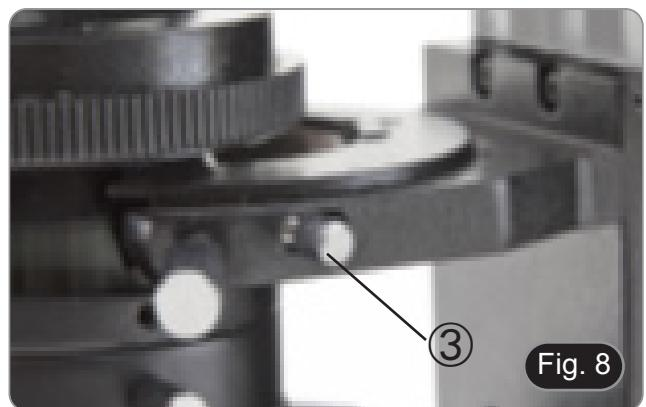

Fig. 8
- Loosen the condenser locking screw ③. (Fig. 8)